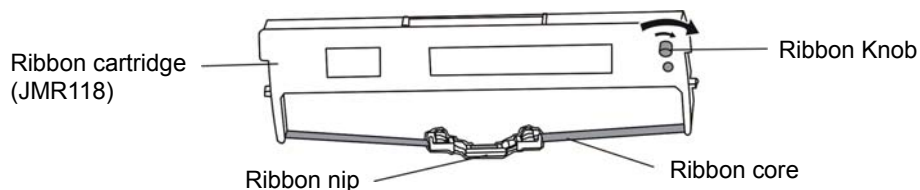

Figure 2-9 Ribbon cartridge
5. Turn the ribbon knob in the direction of the arrow to remove any slack from the ribbon so it is easier to install. (As figure 2-9 shown)